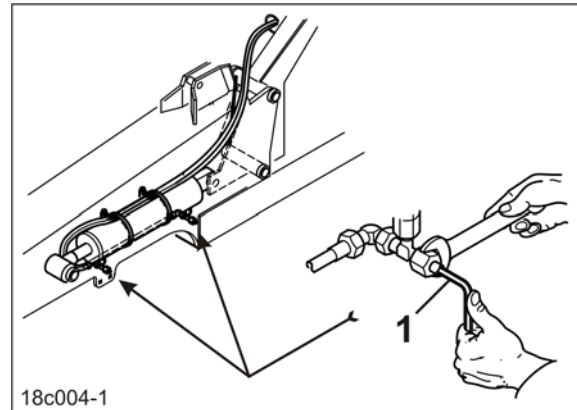

Fig. 138
Using a hexagon socket wrench (Fig. 138/1), change the oil supply to a hydraulic cylinder at one throttle. The implement has 4 throttles.
2. Make the adjustment [see Table (Fig. 138)].